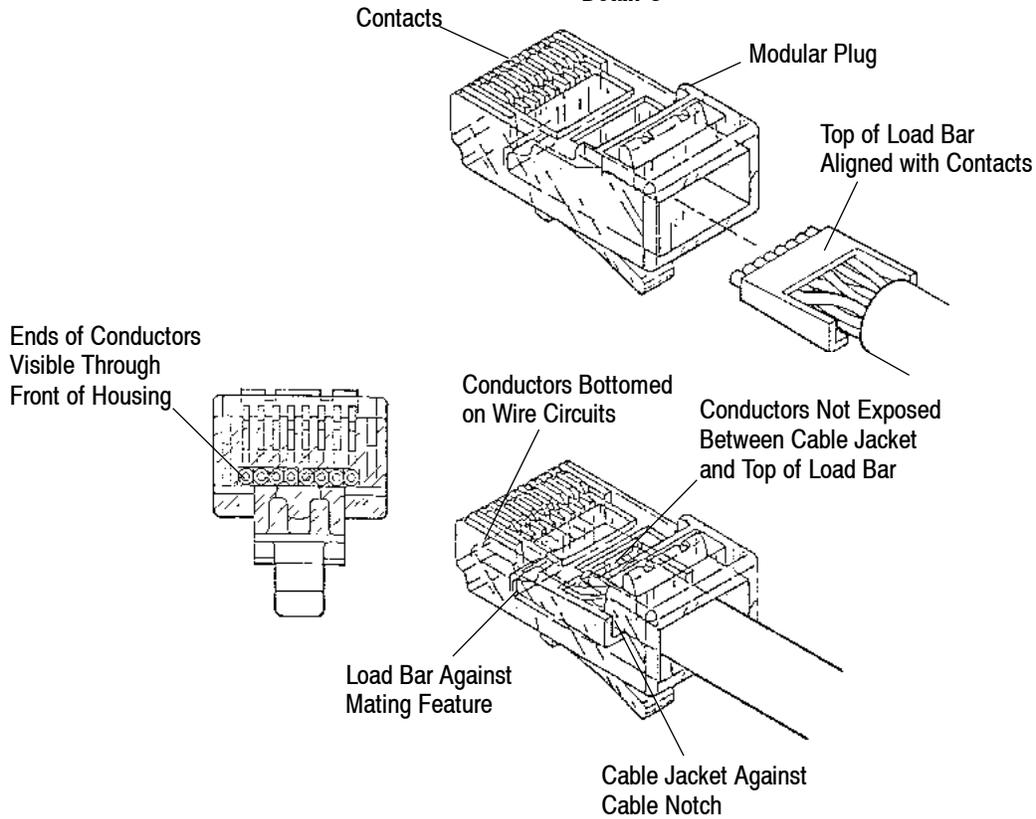

Figure 5
1. The conductors must be inserted (maintaining arrangement) into the back (cable notch end) of the load bar until the cable jacket rests against the cable notch. The conductor twist must not enter the front of the load bar. The conductors must be trimmed evenly and square to the dimension given in Figure 5, Detail A.
2. The conductors must be retracted from the load bar so that the conductors protrude from the end of the load bar to the dimension given in Figure 5, Detail B. The top of the load bar must not be deformed.
3. The load bar must be oriented so that the top is aligned with the contacts of the modular plug and inserted into the modular plug until it butts against the mating feature of the modular plug. The conductors must be bottomed on the wire circuits of the modular plug. The cable jacket must be against the cable notch after the load bar is fully seated. The conductors must not be exposed between the cable jacket and the top of the load bar. The ends of the conductors must be clearly visible through the front of the housing. See Figure 5, Detail C.